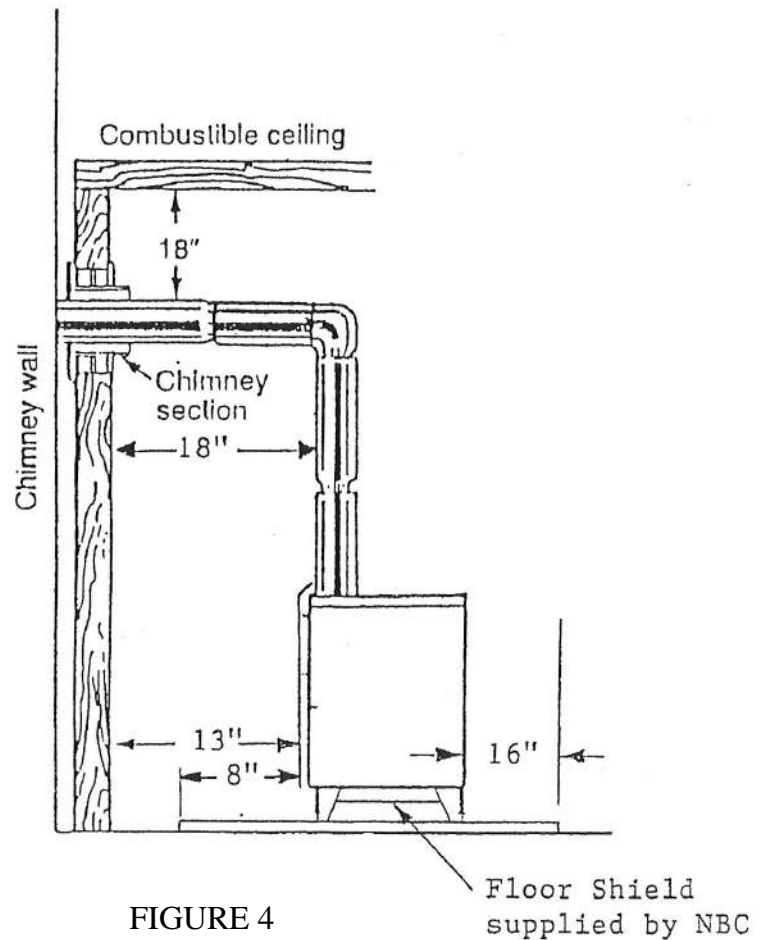

FIGURE 4
2. For close clearances see Figure 4.